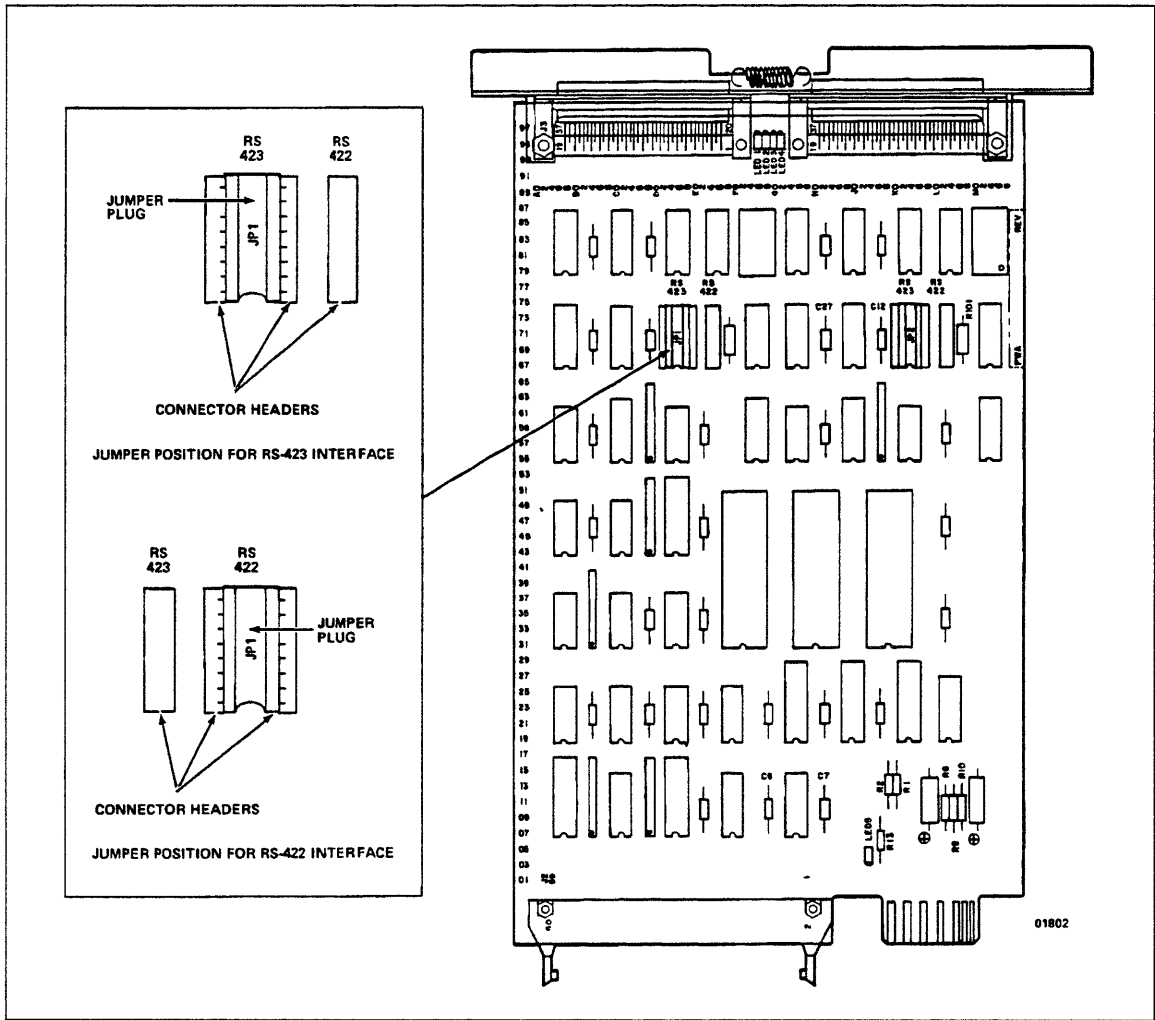

Figure 3-31. Jumper Placement for DY230-B LIM
The DY230-B is an RS-449 LIM that can be set up for either RS-422 or RS-423 operation. The position of the jumper plugs (figure 3-31) determines which way the LIM will operate. The following shows how to set the jumper plug to match your requirements.
4. Determine whether the LIM port should be set as an RS-422 or an RS-423. Refer to figure 3-31 and proceed as follows: